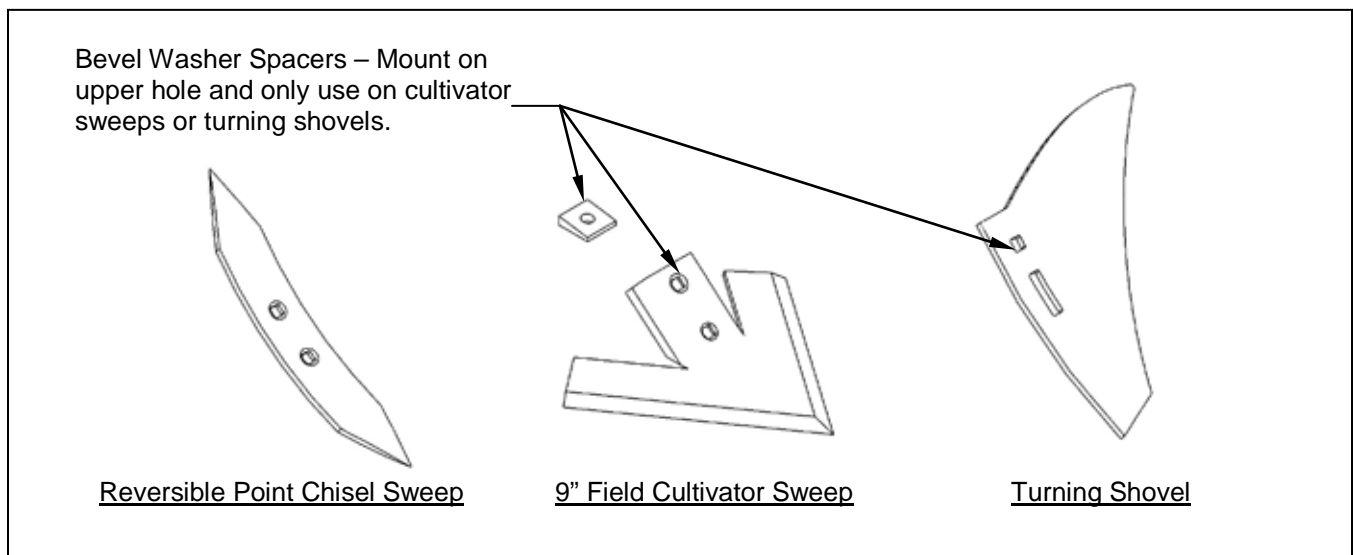
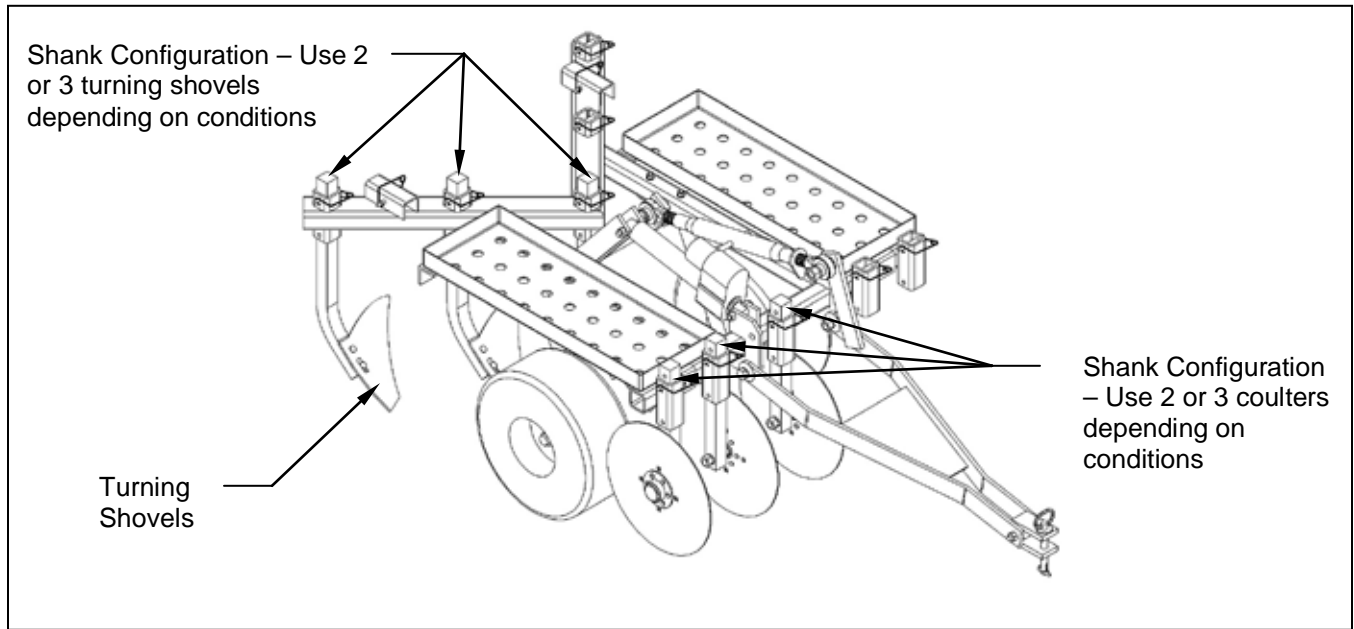

Figure 3. – Sweep Selection
Figure 6. – Turning Shovel Configuration
C. SELECTING THE PROPER SWEEP – Refer to Figure 3.
It is recommended that these conditions be mowed and sprayed with a grass killer. A grass killer will not only kill the green growth but will help to break up the root structure as well. Sod is also easier to work with in the spring or shortly after a rain. In some soft ground or limited sod conditions, it may be possible to use the 9" field cultivator sweeps or reversible point chisel sweeps. In most cases the optional turning shovel kit will work best **(Part # 003801)**. The turning shovels have the ability to strip the sod off and roll it to the side to prevent collecting on the shanks. In hard ground conditions it may be necessary to install the provided bevel washer spacers shown in Figure 3. These spacers will place the shovels at a steeper more aggressive angle of attack. In all cases additional weight is very helpful to maintain coulters penetration. The coulters will cut the sod which helps prevent collection on the shanks and reduces the pulling load requirements. In heavy sod conditions it may work best to only use two turning shovels. If only two turning shovels are used place the shovels on the shanks closest to the center of the tool. **(See Figure 6.)**